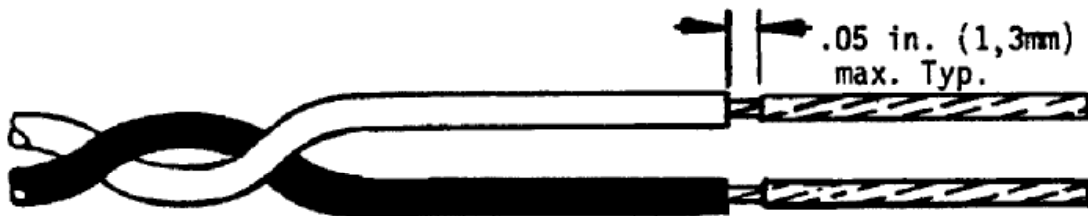

Figure 5-10
9. Pratin stranded wire and unplated solid wire to within 0.05 inch of the insulation, using Sn63 solder and RMA flux per QQ-S-571 (Figure 5-10).